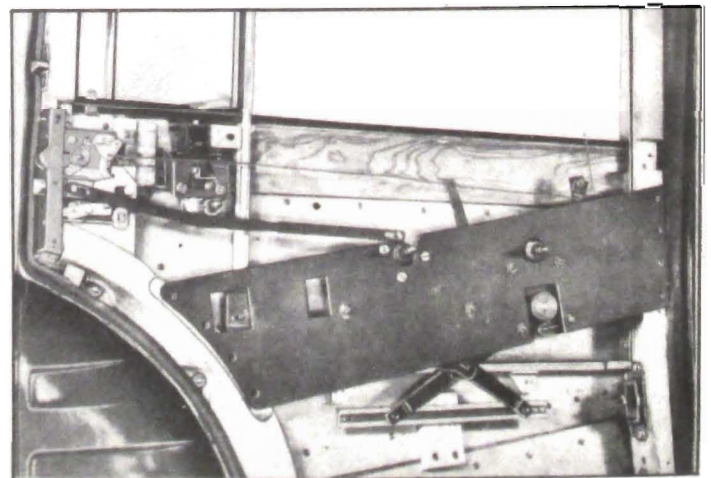

Figure 13-79—Rear Door with Inside Trim Panel Removed—1948 Models
2. Remove inside trim panel and regulator panel. See figure 13-79.